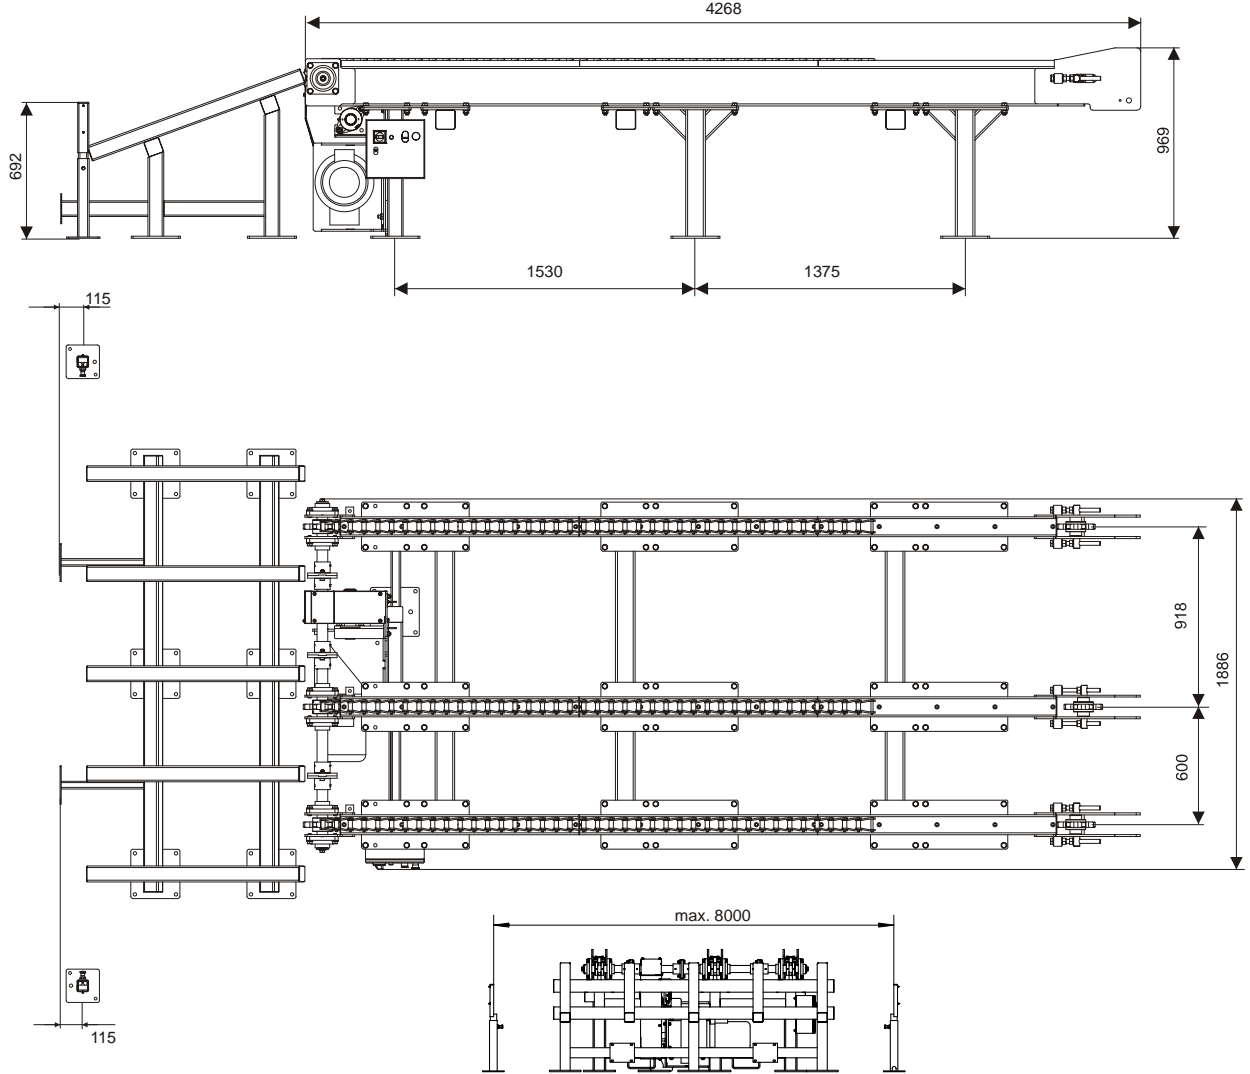

FIG. 4-1 SLPLD3.6
- Setup and connect the light curtain posts according to figure 4-1 and electric diagram.
See Figure 4-1. The overall dimensions of the SLPLD3.6 Log Deck are shown below (all dimensions are in millimeters).